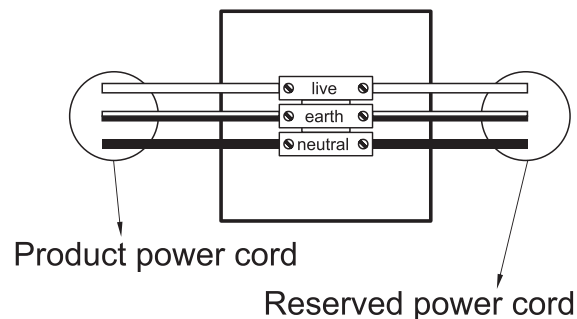

Fig.18
- 2.3 Repeat the operation as shown in Fig 9 and mount the mirror cabinet to the bar,, make sure that the circuit on the wall is not energized and connect the three-core wire reserved on the wall to the three-core wire terminal block on the product (Fig.18), and then use the screwdriver to tighten the screws into the holes